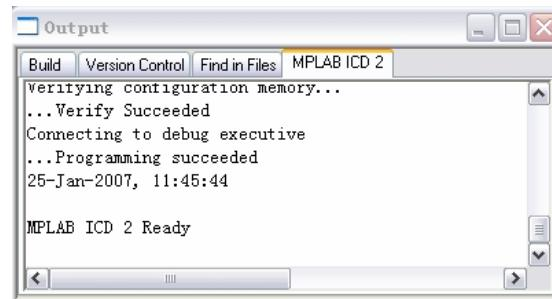

Figure 6-5 Programming Information
- 6) Implement menu command Debugger->Program or the icon in the tool bar to program/burn the objective codes to the target MCU chip (Note: now the MCU cannot run in offline mode but has to be run under debugging mode), after programming it will show a message as in Figure 6-5.